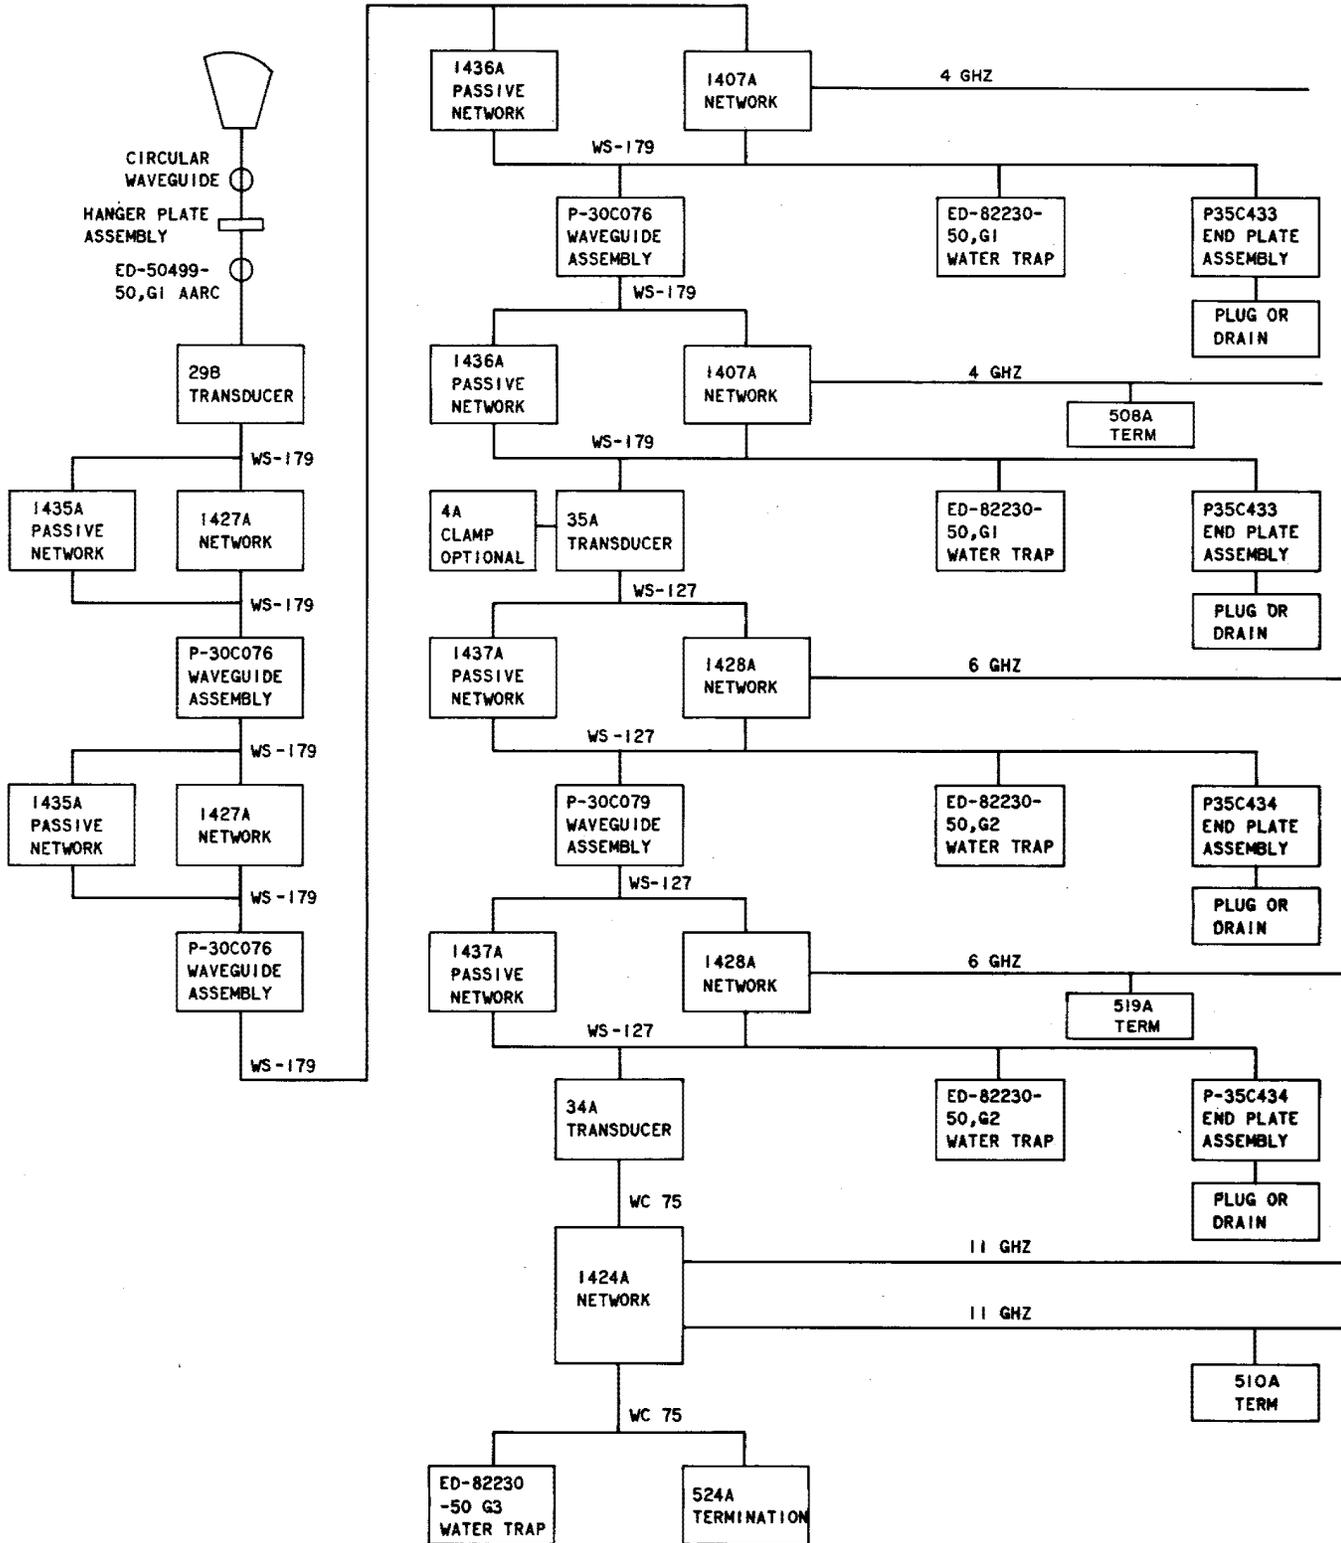

Fig. 1—Full Array—System Combining Network
**2.01** The installation procedures assume the use of cross polarization at each frequency range. If single polarization is desired, it should be done by substituting the appropriate passive network for one combining network as described in the installation procedures. Figure 1 shows the full network array configuration.